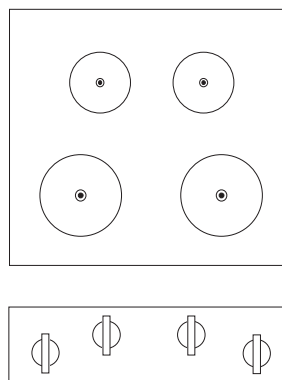

Figure 2.25: A full, natural mapping of cooker controls. There is no ambiguity, no need for learning or remembering, and no need for labels.
- Full Natural Mapping (see Figure 2.25).